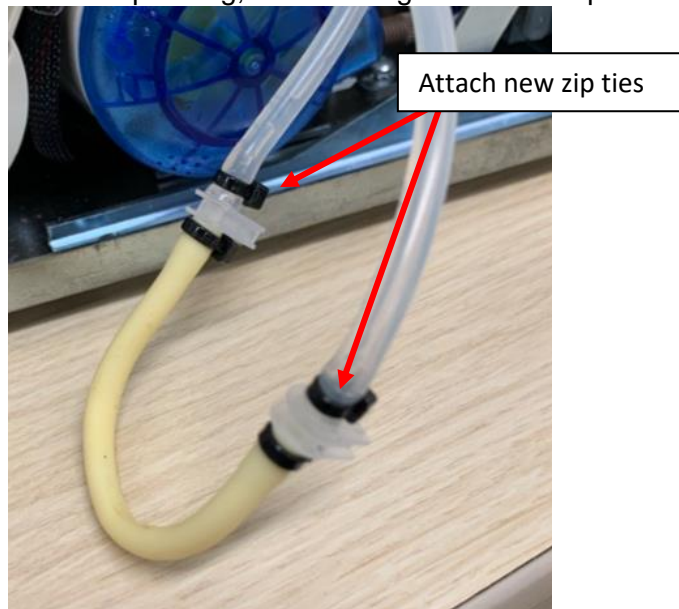

Figure 27
- 5.1. Prior to installing Wash Pump tubing, insert tubing and attach zip ties. Figure 27.